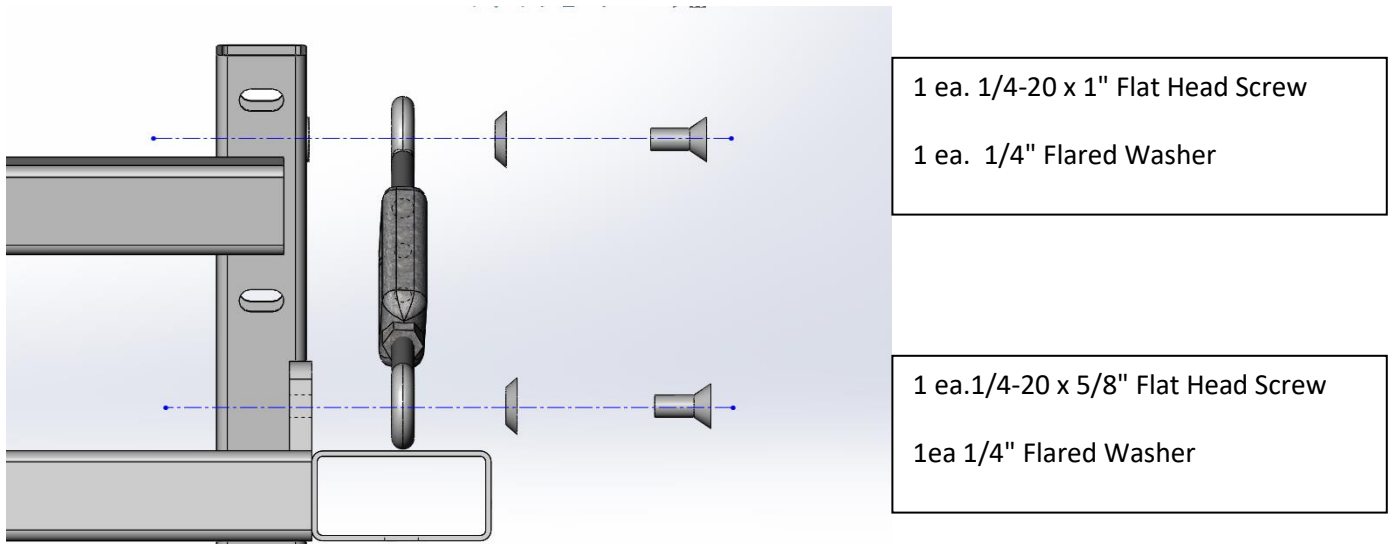

Figure 2
4. Install the turnbuckles using one 1/4-20 x 1" Flat Head Bolt and flared 1/4" Washer into the upright and one 1/4-20 x 5/8" Flat Head Bolt and flared 1/4" Washer into the base through the corresponding holes in figure 2.